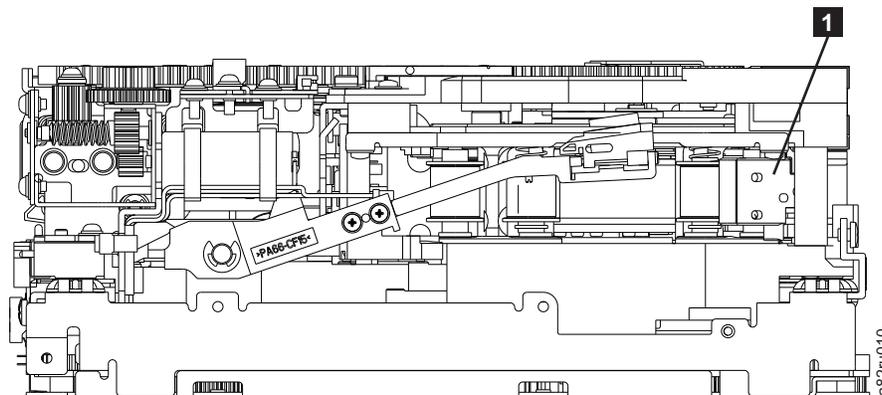

Figure E-8. Leader Block Assembly (LBA)
7. Rotate the threader motor worm gear (**4** in Figure E-7 on page E-8) to turn the threader mechanism gear (**6** in Figure E-7 on page E-8) counterclockwise. This moves the LBA out of the cartridge and past the read/write head. Stop this rotation when the LBA is near the tape guide roller nearest the rear of the drive (**1** in Figure E-8).